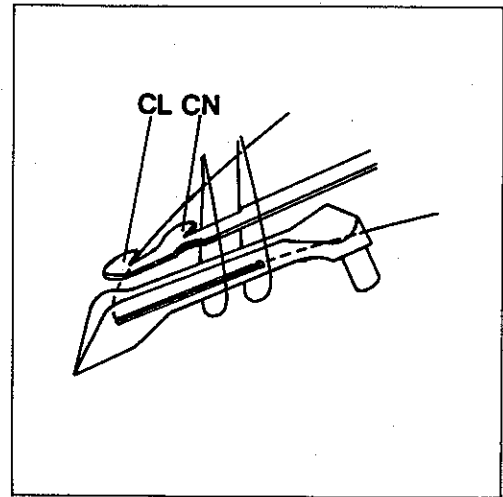

Fig. 58
When the lower knife swings back to the right, the looper thread must be caught by cutting edge (CL, Fig. 58) and the needle threads by cutting edge (CN) and drawn to the upper knife for cutting.